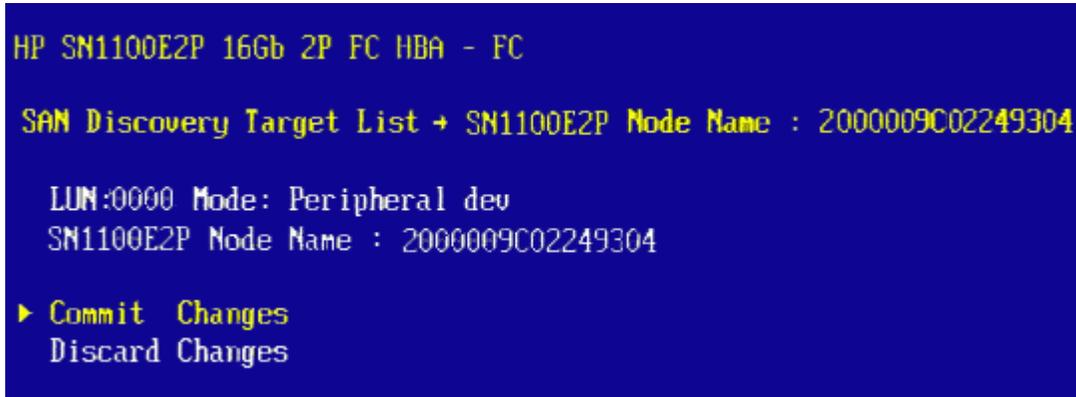

Figure 6-9 Commit/Discard Changes Menu
4. Select the boot device you want to add and press **<Enter>**. A menu appears enabling you to commit or discard your changes (Figure 6-9 on page 56).